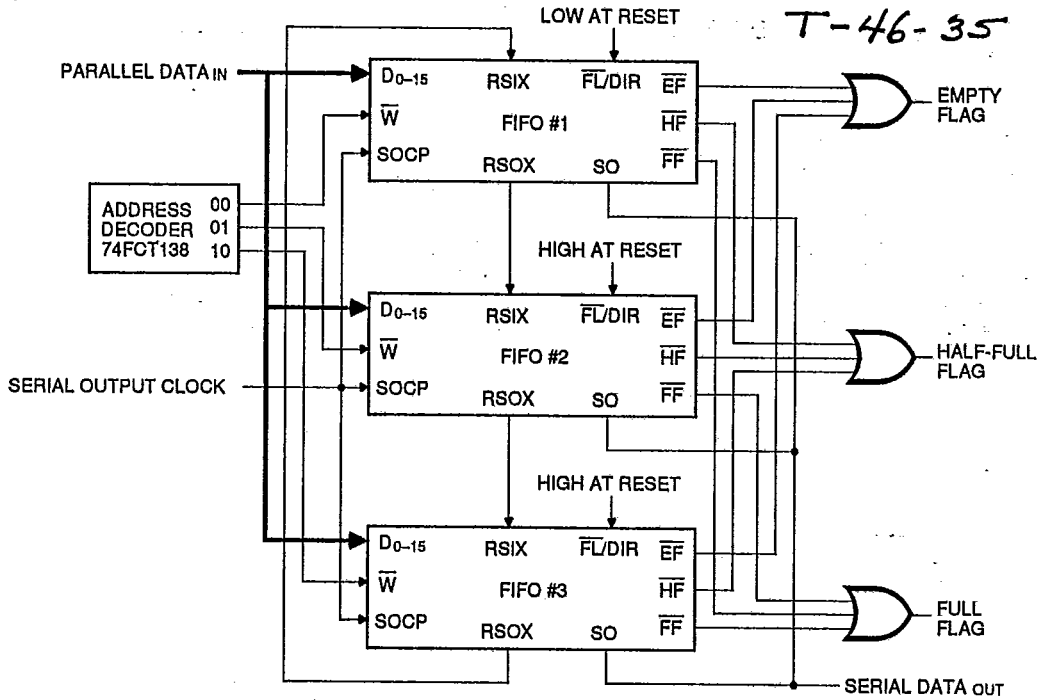

Figure 12. A 3K x 16 Parallel-to-Serial FIFO using the IDT72125
The IDT72105/15/25 can easily be adapted to applications requiring greater than 1024 words. Figure 12 demonstrates Depth Expansion using three IDT72105/15/25s and an IDT74FCT138 Address Decoder. Any depth can be attained by adding additional devices. The Address Decoder is necessary to determine which FIFO is being written. A word of data must be written sequentially into each FIFO so that the data will be read in the correct sequence. The IDT72105/15/25 operates in the Depth Expansion Mode when the following conditions are met:
2. The Read Serial Out Expansion pin (RSOX) of each device must be tied to the Read Serial In Expansion pin (RSIX) of the next device (see Figure 12).